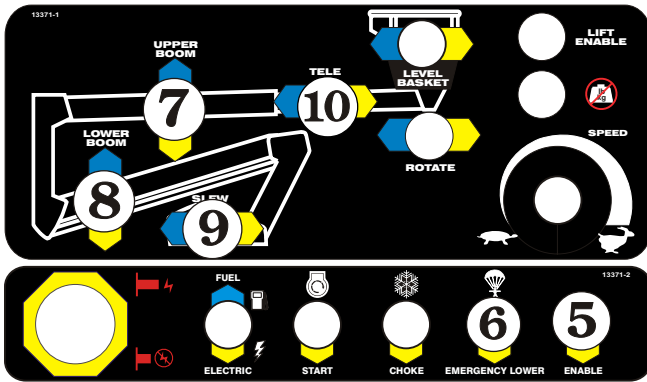

Figure 9.5 - Platform Control Box
6. Whilst still operating the enable switch, press and hold the **Emergency Lower** switch **6** down (see Figure 9.5) and the booms will begin lowering.
7. To **SLEW** during the emergency lower the following switches (see Figure 9.5) must be operated together.
8. To **TELE** during emergency lower the following switches (see Figure 9.5) must be operated together.